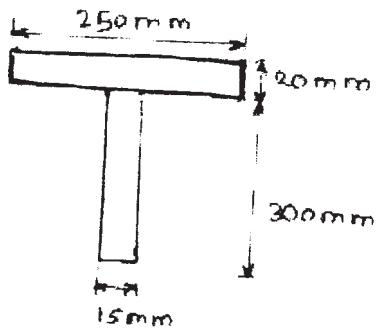

Fig.3.
**Q3)** a) Find the centroid of the 'T' section as shown in fig 3.